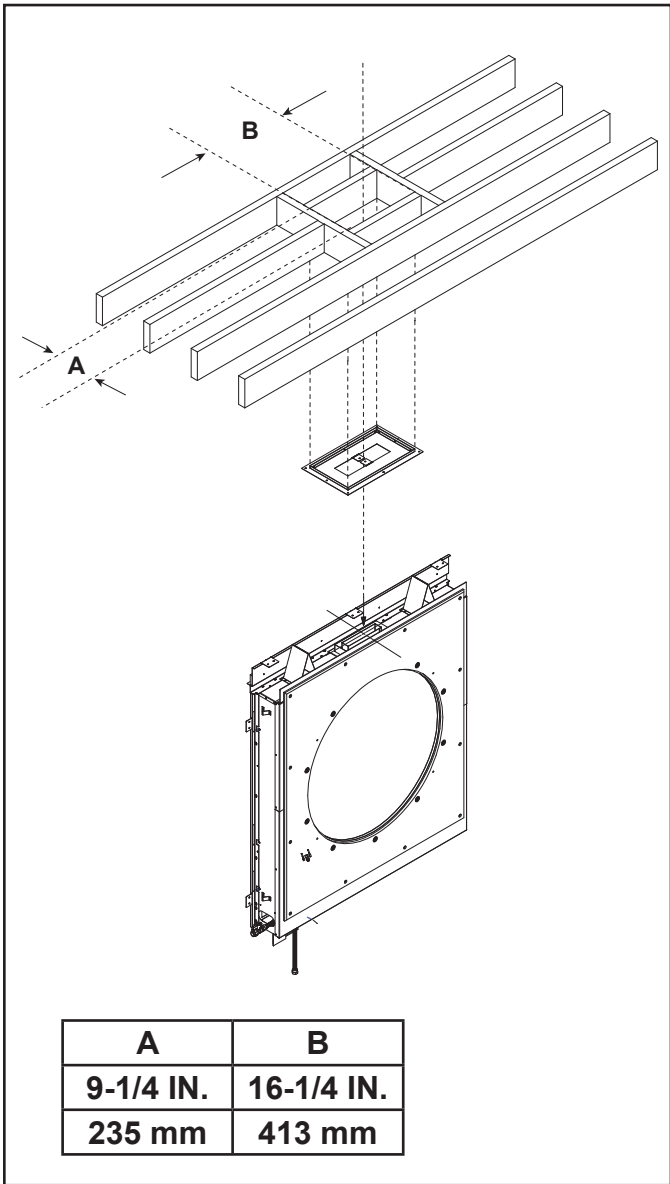

Figure 8.25 Installing DVRP-WFS Ceiling Firestop
- **DVRP-WFS** -Frame opening 9-1/4 in. x 16-1/4 in. (235 mm x 413 mm) whenever the vent penetrates a ceiling/floor. See Figure 8.25.